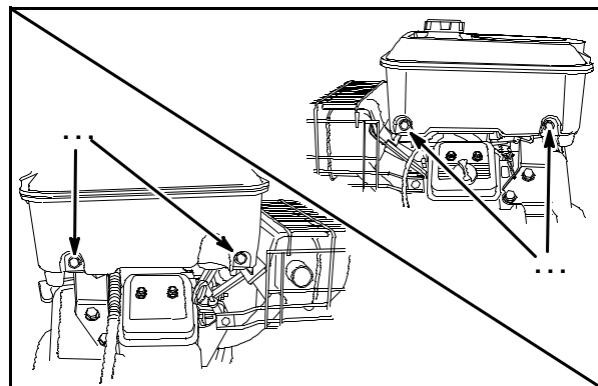

Fig. 9
Remove 2 shoulder bolts (5) from each side of the fuel tank, **Fig. 9**.